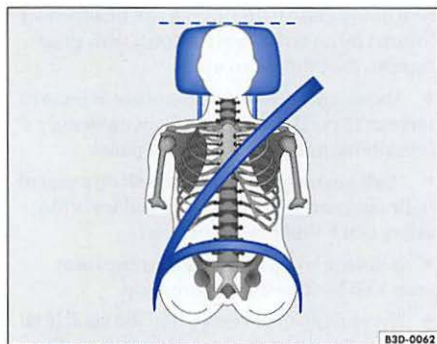
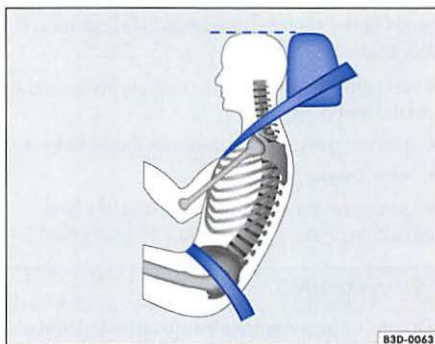

Fig. 48 Viewed from in front: properly adjusted head restraints and proper belt adjustment
Fig. 49 Viewed from side: properly adjusted head restraints and proper belt adjustment
- Adjust the head restraint so that the upper edge is as even with the top of your head as possible ⇒ **fig. 48** and ⇒ **fig. 49**.